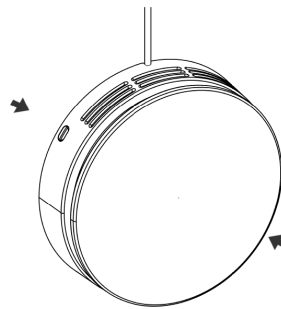

Figure 30 - Press down on the spring catches
3. Press down on the spring catches to make them release, see Figure 30 below.